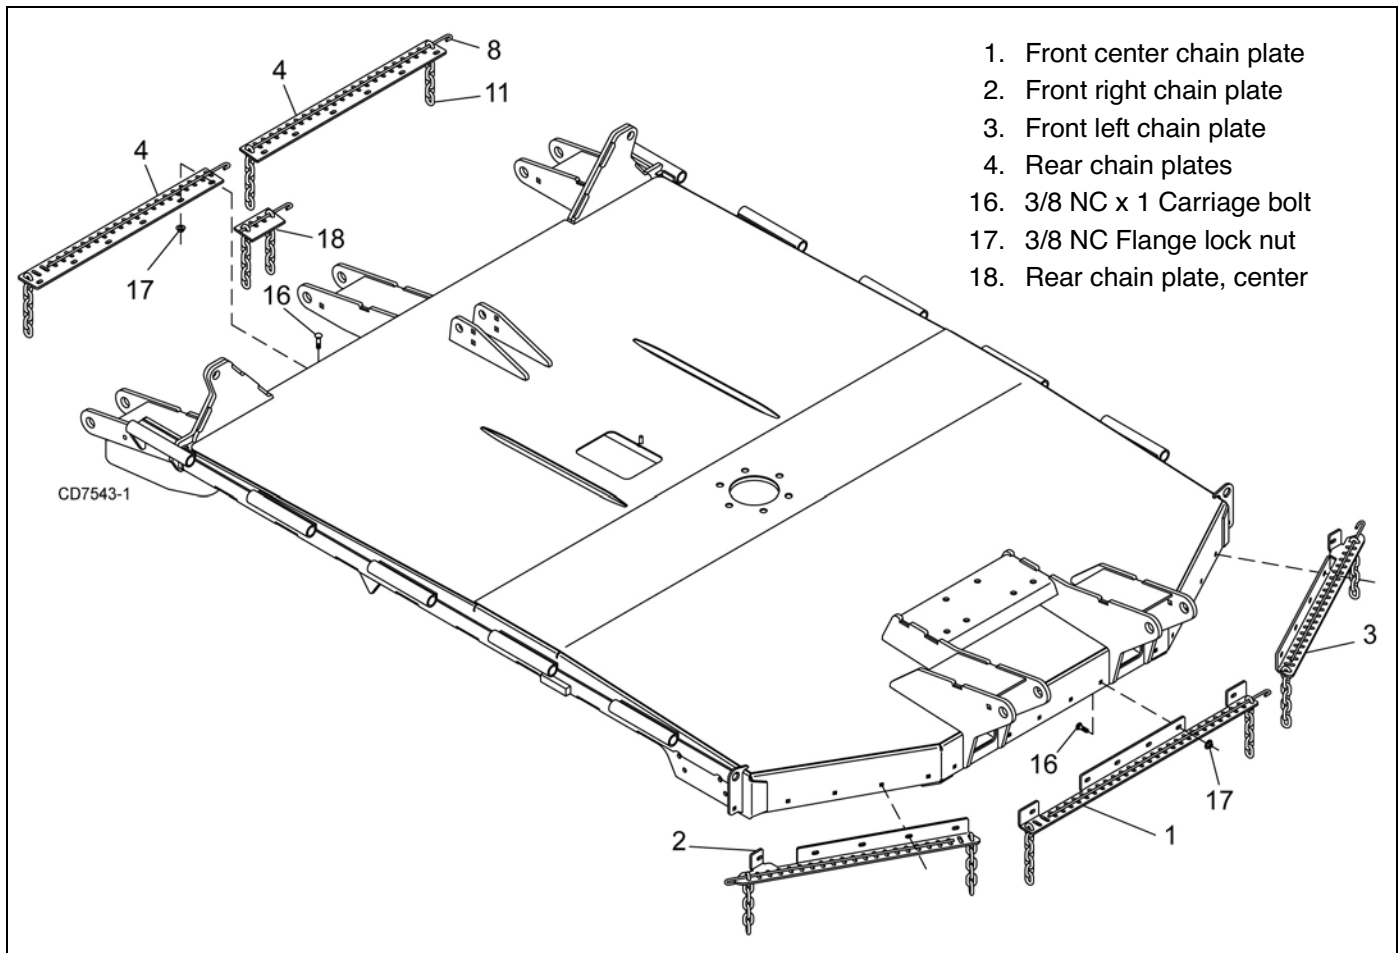
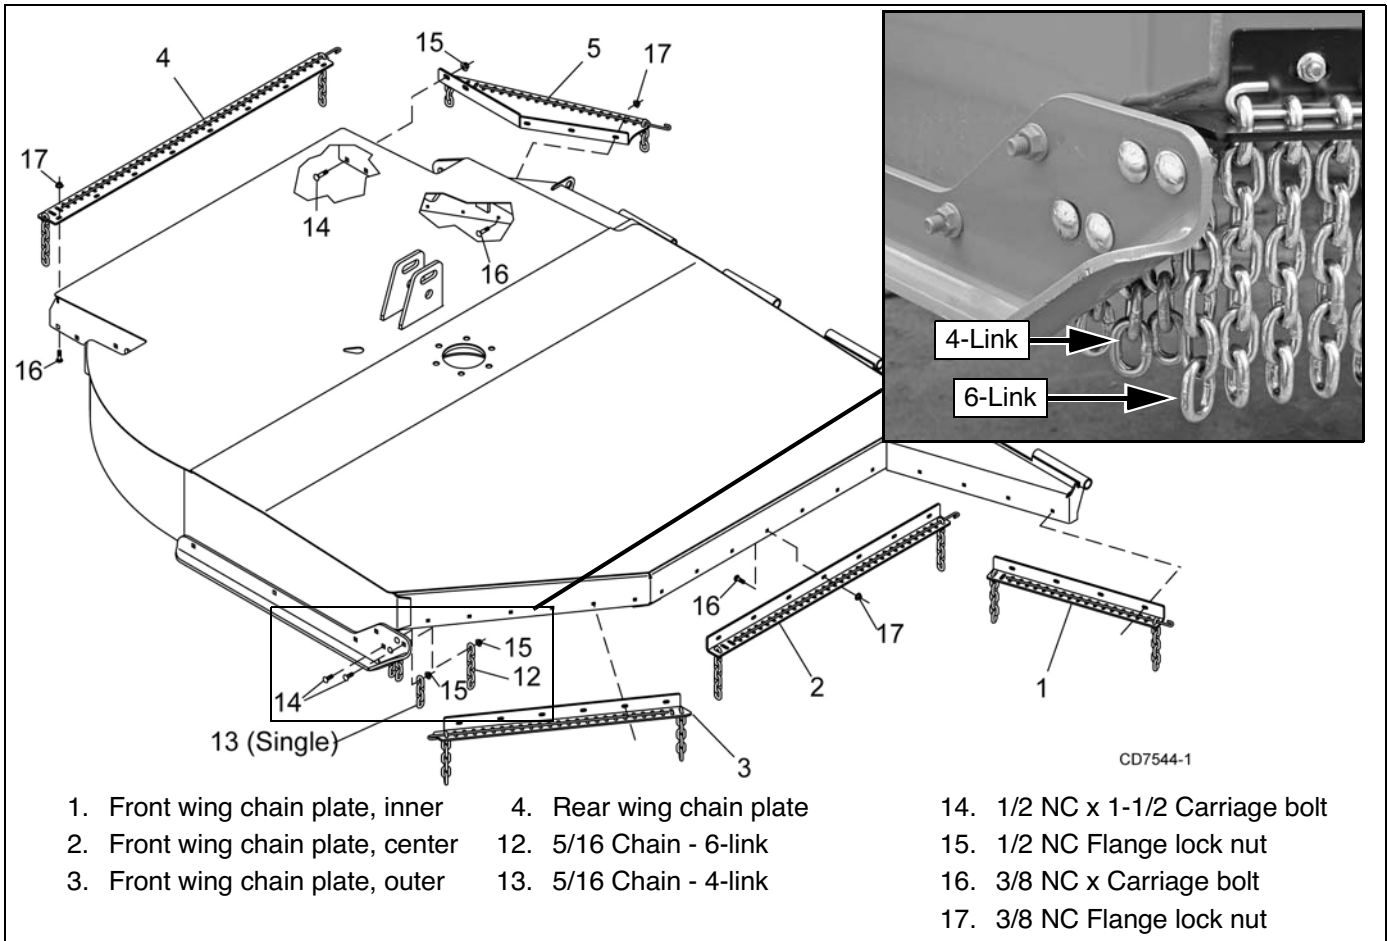
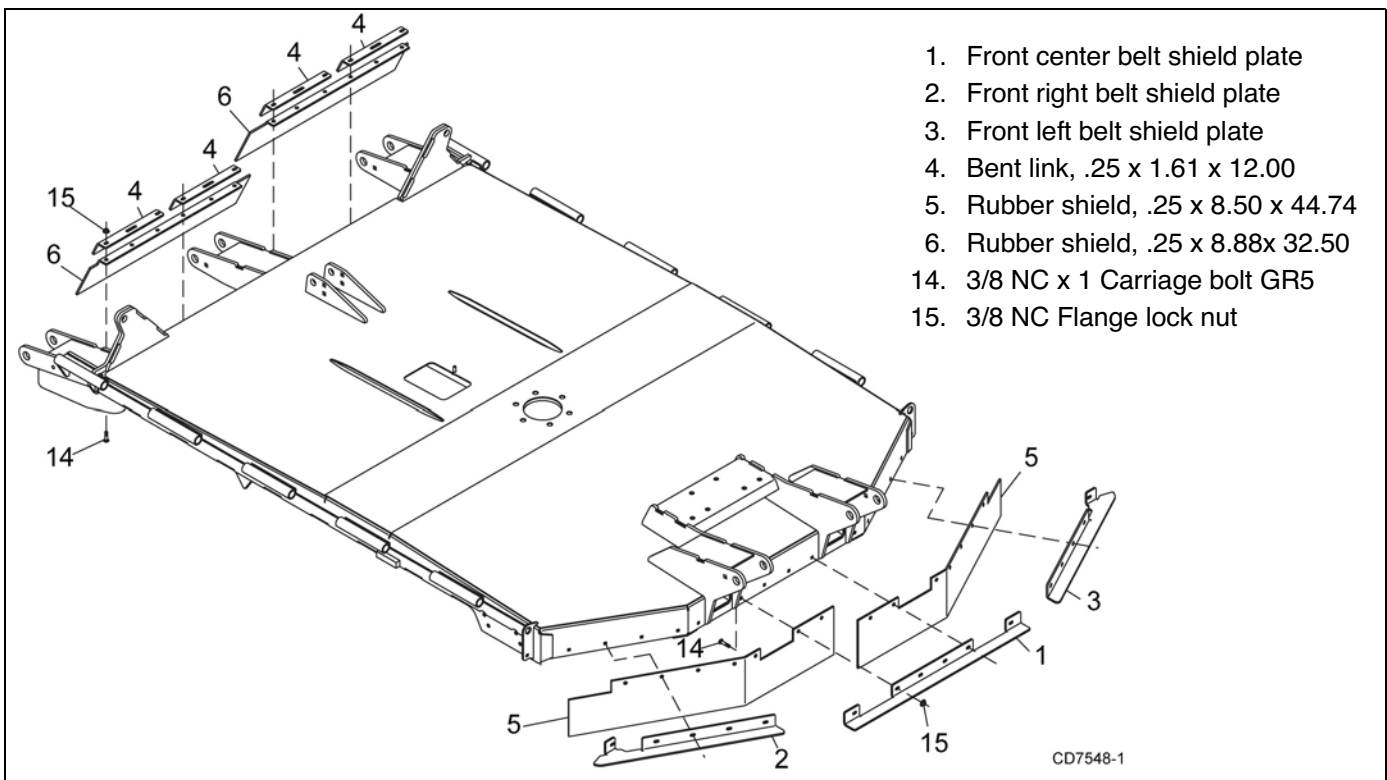
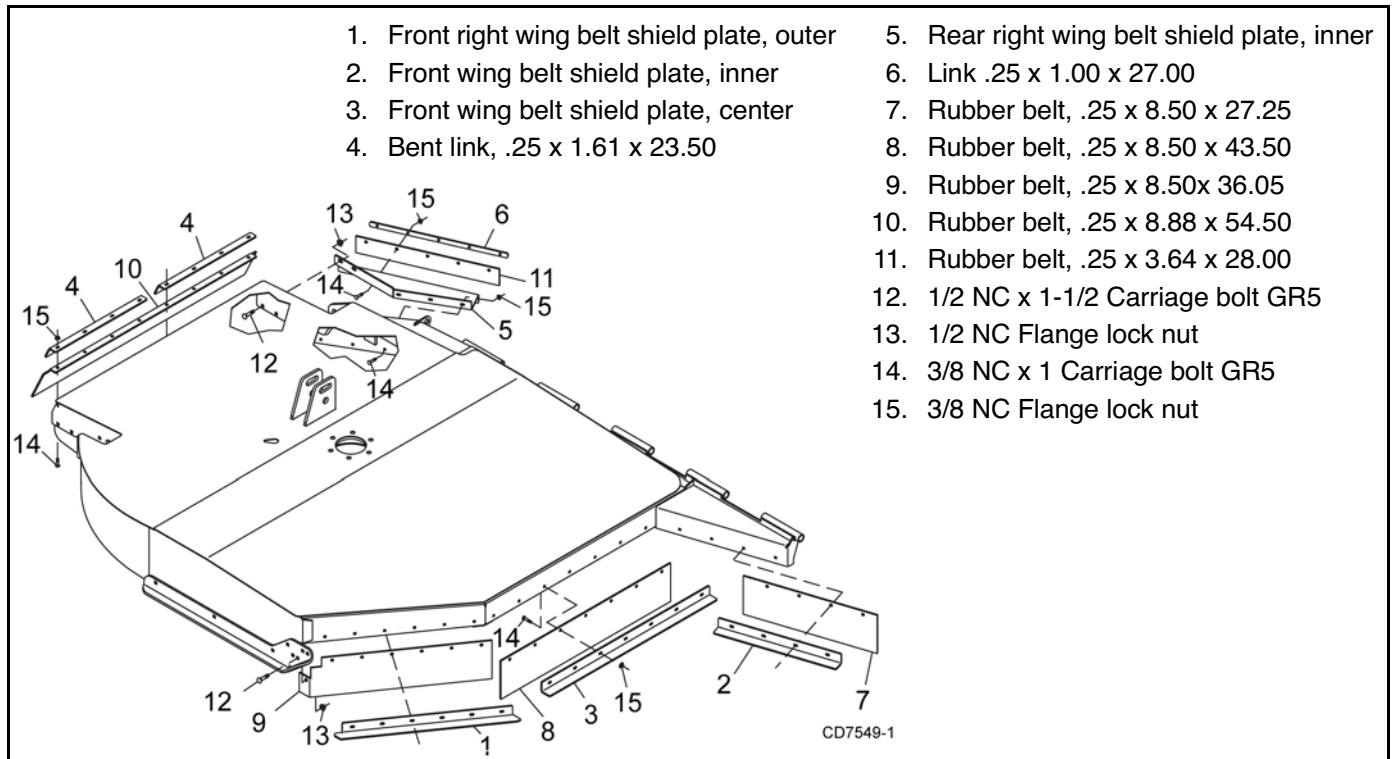

Figure 34. Chain Shielding Installation - Center Section
Figure 35. Chain Shielding Installation - Right Wing Shown
Figure 36. Belt Shielding Installation - Center Section
Figure 37. Belt Shielding Installation - Right Wing
Install chain and rubber shields with hardware as shown. (Refer to Figure 34 and Figure 35 for Chain Shielding Installation; Figure 36 and Figure 37 for Belt Shielding Installation.)
NOTE: CHAIN SHIELDING - Center Section: Attach rear chain plates (4) to the top of center section. Attach center chain plate (18) to the bottom of the center section. **Wing:** Install four (two per wing) 6-link chain sections (12) and four (two per wing) 4-link chain sections (13) to the wing skid shoes. Secure with carriage bolts (14) and flange lock nuts (15). See Figure 35.